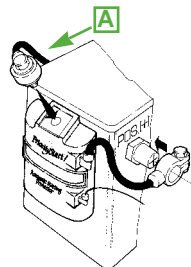

Figure 8
4. Connect vehicle Pos.(+) cable **A** *securely* into top of PriorityStart! [Fig.8].
5. Connect PriorityStart! Red Cable *securely* to Pos. (+) terminal post (Post Adaptor) on vehicle battery [Fig.8].